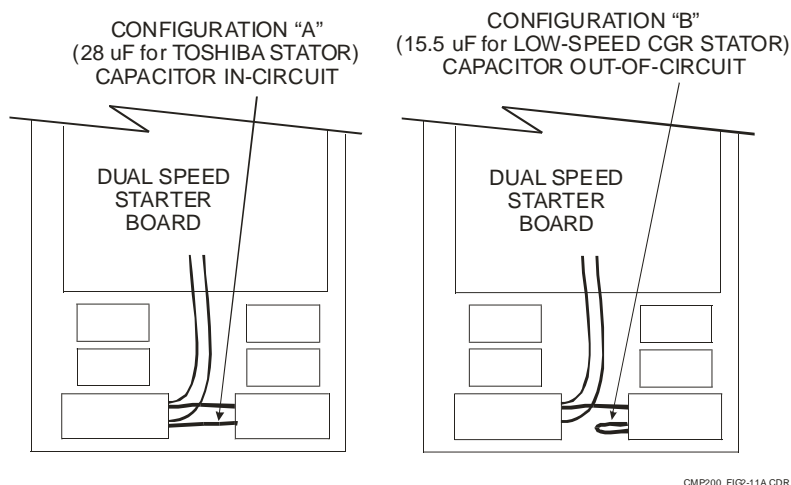

Figure 2-15: Selection of phase shift capacitance
Refer to Figure 2-15. In configuration “A”, (28 uF) two leads are connected to the lower right capacitor. Thus, the capacitor is in-circuit in this configuration.
- To change from configuration “A” to “B”, disconnect the interconnecting lower lead from the lower left capacitor in Figure 2-15, and connect it to the same terminal on the lower right. This removes the lower right capacitor from the circuit.
- To change from configuration “B” to “A” in Figure 2-15, reconnect the lead between the two capacitors, as shown. This connects the capacitor into the circuit.